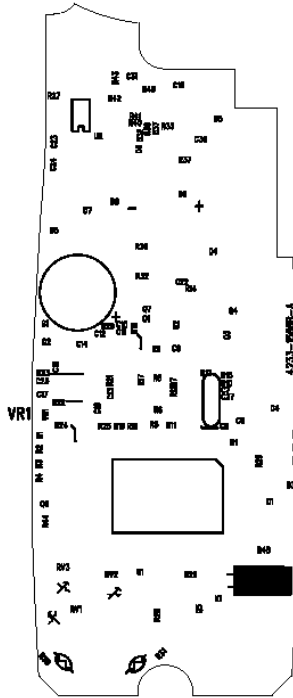
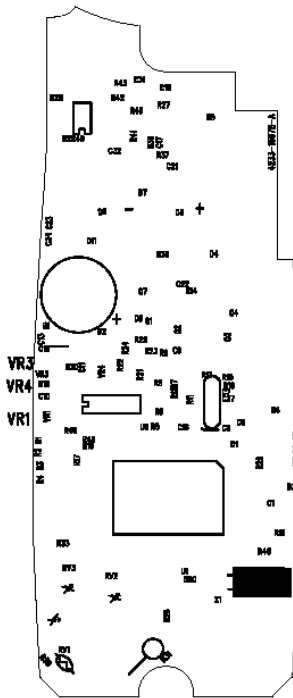

Figure 1A (61-744)
Figure 2A (61-746)
**V DC Calibration****61-744 (Refer to Figure 1A), 61-746 (Refer to Figure 2A)**
**V AC Zero Calibration****61-746 (Refer to Figure 2A)**
**V AC Calibration:****61-746 only (Refer to Figure 2A)**